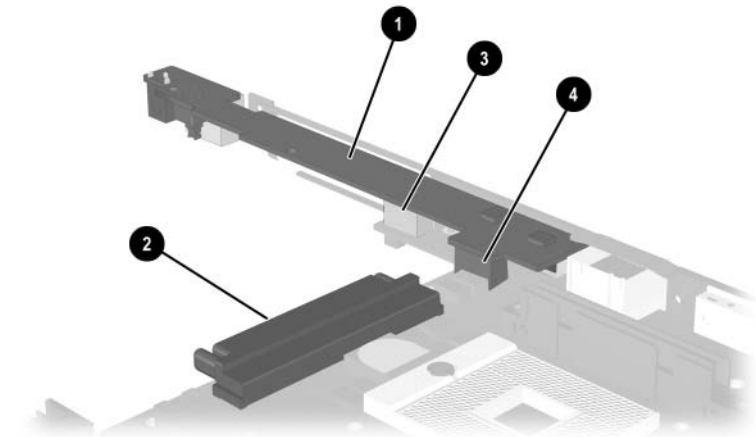

Figure 5-27. Proper Handling of the I/O Interface Board on Evo Notebook N620c, N610c, and N610v Models
Figure 5-27 applies only to Evo Notebook N620c, N610c, and N610v models. When handling the system board, be careful not to put stress on the I/O interface board ❶. The narrow profile of this board makes it susceptible to being damaged when mishandled. The system board should only be removed and handled using the Media Bay connector ❷. After the system board is installed in the base enclosure, apply gentle downward pressure on the I/O interface board directly above the two connectors ❸ and ❹ that connect the I/O interface board to the system board.